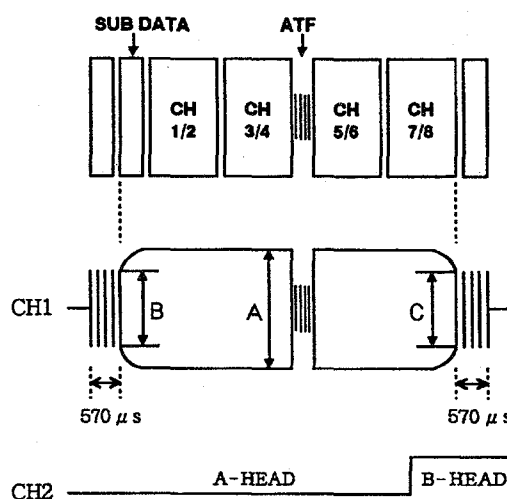

Fig. 2-5
STEP1. Play back an MP playback test tape (TEAC MTT-88101), and confirm that the playback RF waveform for both A-HEAD and B-HEAD falls within the following ranges (See Fig. 2-5):
STEP2. After recording for approx. 15 seconds, rewind and play back the tape; confirm that the recorded RF waveform for both A-HEAD and B-HEAD falls within the following values (See Fig. 2-5):